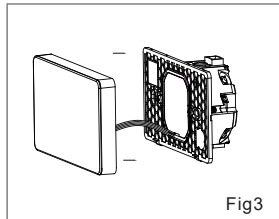

Fig3
Step 3: Snap the thermostat screen and the mounting plate together to complete the installation.Power on for testing.(Fig3).